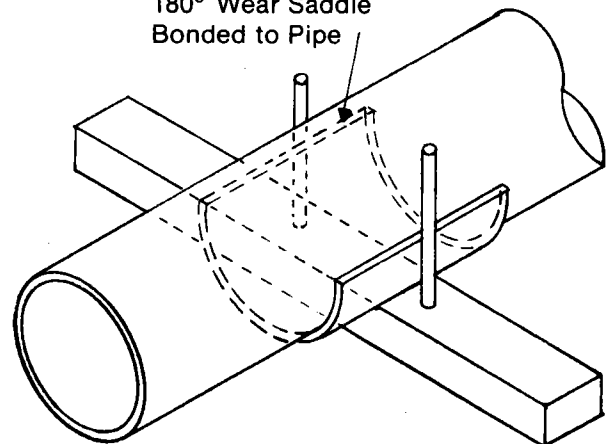

Figure 23. Restrained Elbow
8. Pipe sections should be anchored at valves, changes in direction, and major branch connections. In most cases, pumps, tanks, and other similar equipment can function as anchors. (See Figure 23, page 87, "Restrained Elbow").